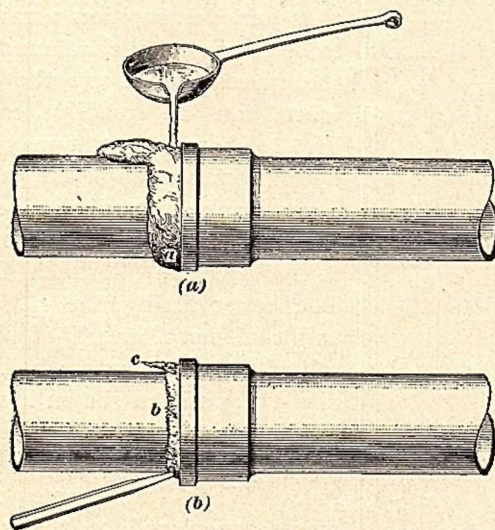

FIG. 10
10. Calking a Horizontal Joint.— In making horizontal joints, or joints on inclined pipes, the outer end of the socket must be closed by a band or joint runner, as shown at *a*, in Fig. 10 (*a*). If a special joint runner is not at hand, the band is usually made of clay and strengthened by a piece of rope embedded in the clay. A **gate**, or pouring notch, is left at the top, and molten lead is poured into it from the ladle, as shown. The working face of the clay is
shaped so that the lead will take the form shown in Fig. 10 (*b*) at *b*, the projection *c* being the gate. Pouring should not be stopped until the gate is full and remains so. Particular care should be taken before pouring that the socket be wholly free from moisture; otherwise, an explosion is very likely to occur while the lead is running in, by the moisture being suddenly converted into steam. To guard against this danger, the workman should always stand behind the